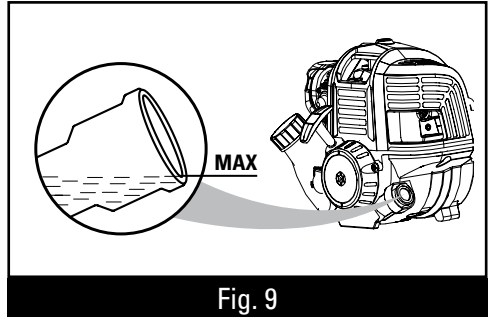

Fig. 9
5. If level is low, add engine lubricant until the fluid level rises to the top of oil fill hole (the top of screw thread) and does not overfill, Fig.9.